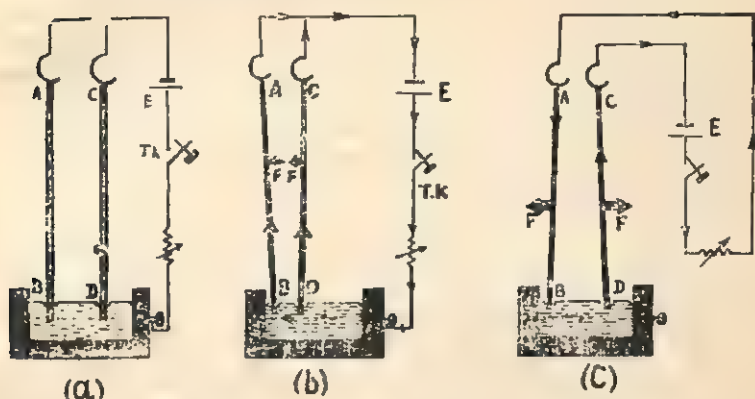

Fig. 12.11. Action of current on current.
**Procedure.** (A) (i) Arrange the circuit connections as shown in Fig. 12.11 (a).
(iii) Now pass a suitable current by pressing the tapping key (T.K.) as shown in Fig. 12.11 (b) and note that the *spacing decreases*. The maximum decrease is at the ends in contact with mercury. In this case the currents in the two wires are in the **same direction** and they **attract** each other.
(B) (i) Now arrange the circuit connections as shown in Fig. 12.11 (c).